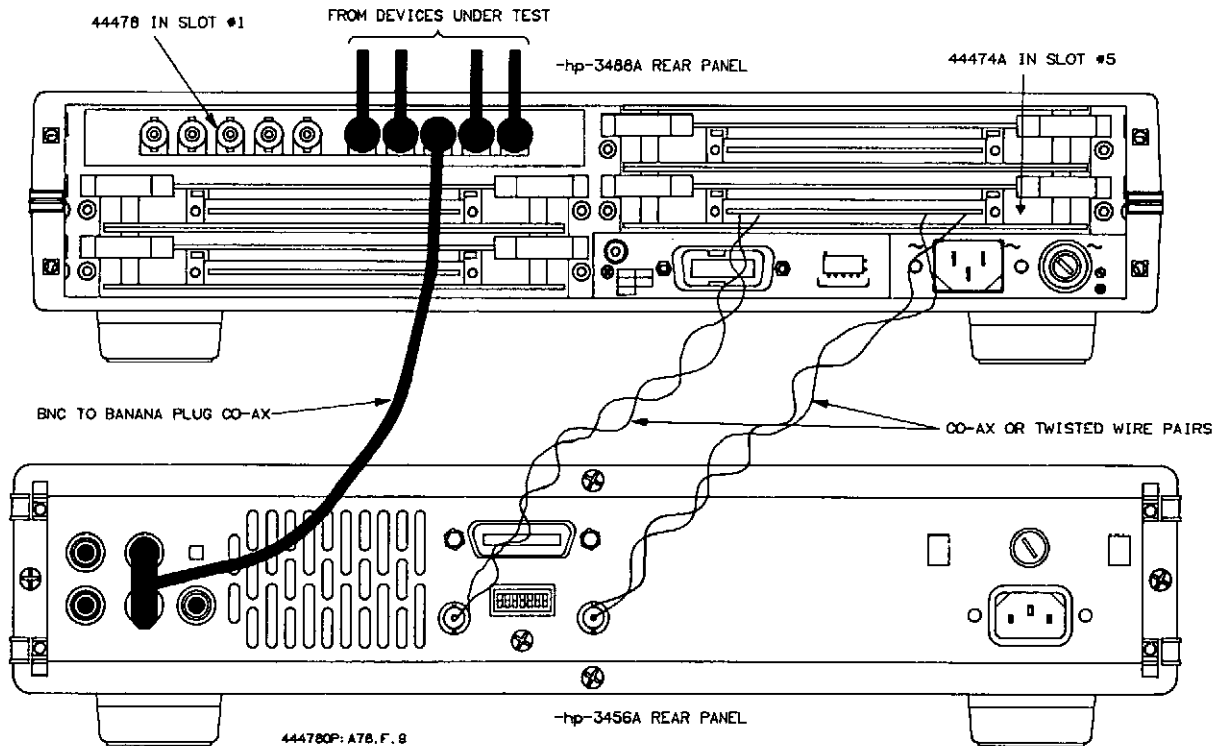

Figure 14-9. Typical Connections for Scanning with with External Measurement Device
Figure 14-9 illustrates a typical scanning application setup using an HP 44478 and the HP 44474A channel closed (CC) and external increment (ET) signals to control the scan with external measurement. More detailed information on use of CC and EI can be found in chapter 10 of this manual which describes operation of the HP 44474A.